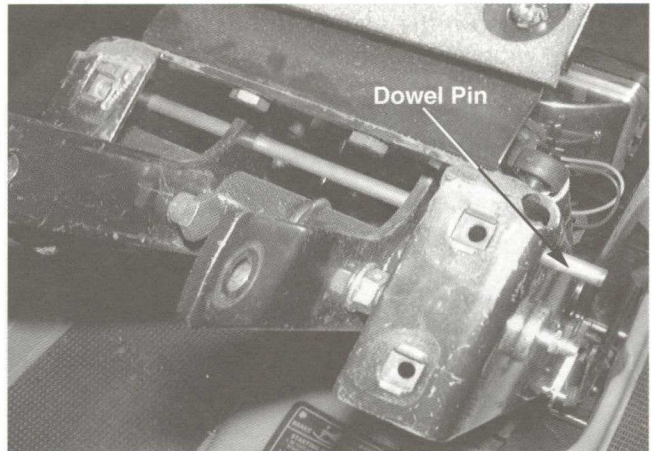

FIGURE 12.
20. Insert a 1/4" by 7" dowel pin or equivalent through the upper alignment hole of the support tower, through the upper left and right bellcrank assemblies, and out the opposite side of the support tower. See figure 12.